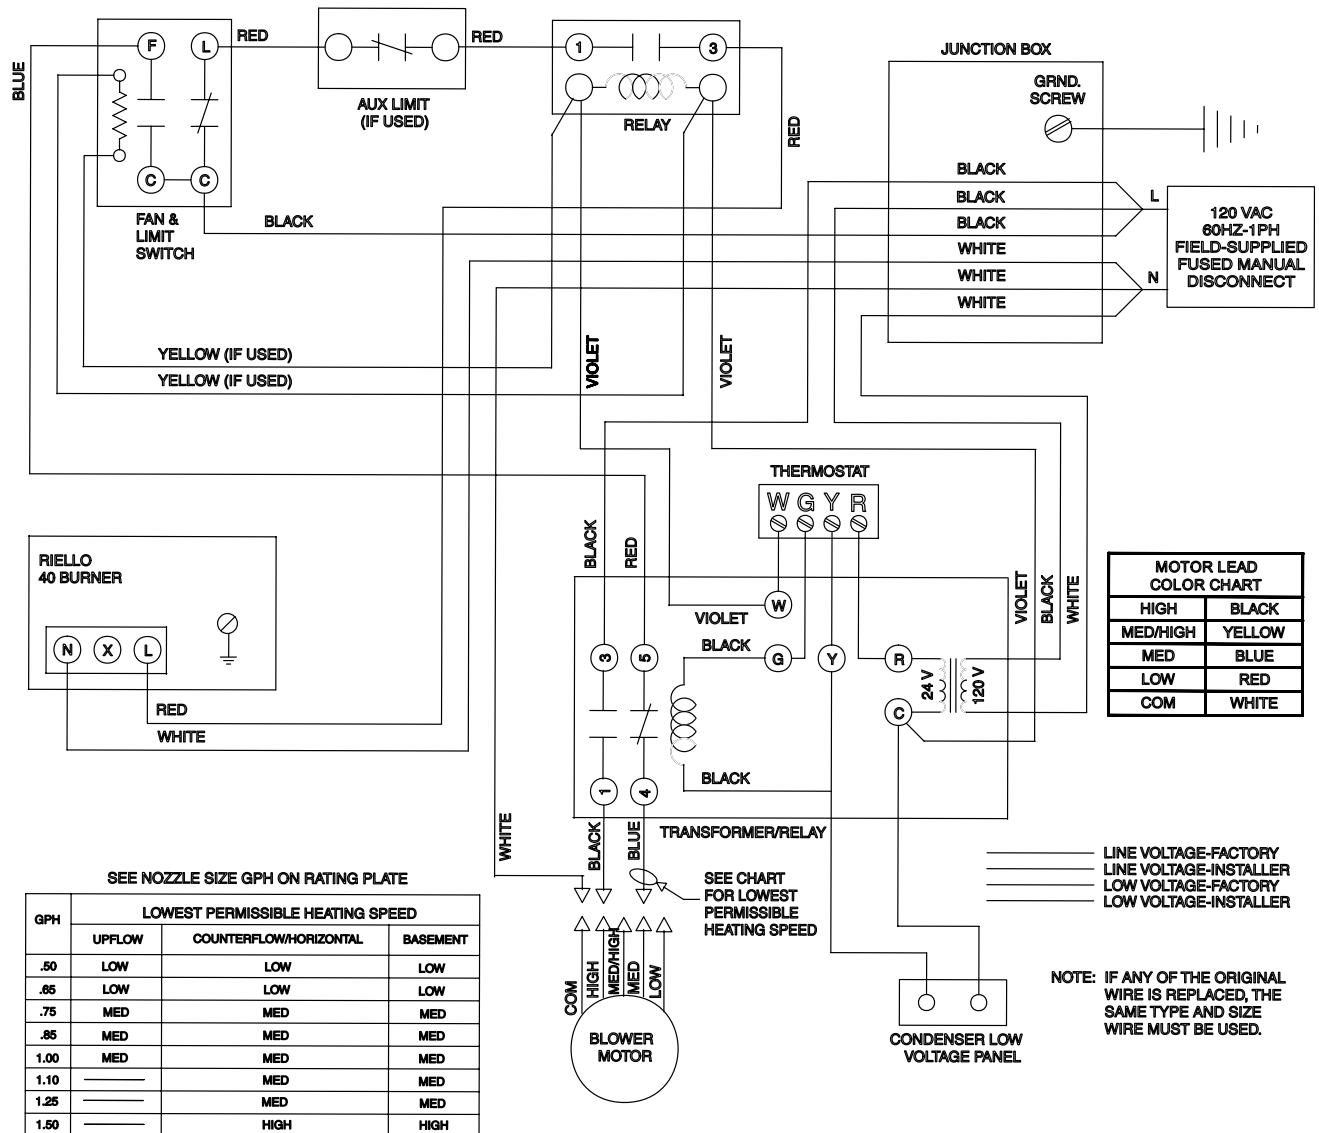

Figure 20
All wiring must conform to the National Electric Code (NEC), or Canadian Electric Code (CEC) and any local codes. Refer to figure 20 for low voltage and high voltage wiring connections.
*NOTE - An equipment ground screw is provided. Refer to unit wiring diagram in figure 20. Ground unit using a suitable ground wire.*